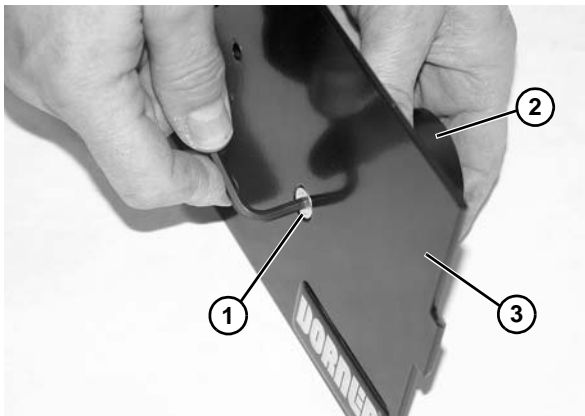

Figure 73
18. Remove socket head screw (**Figure 73, item 1**) holding return rollers (**Figure 73, item 2**) onto drive cover plate (**Figure 73, item 3**).